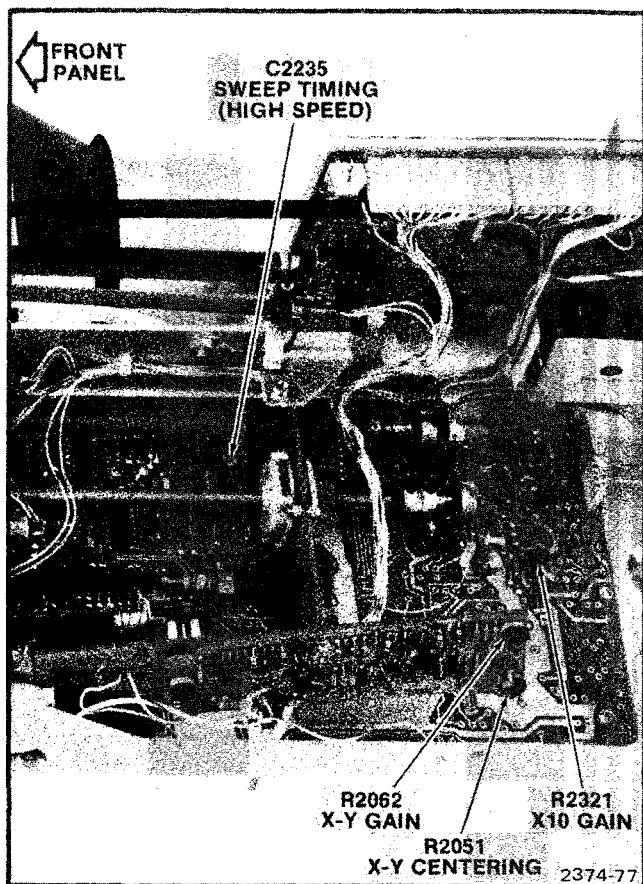

Figure 4-12. Horizontal adjustment locations on A12 Horizontal board and A11 Trigger Switch board.
c. ADJUST—X10 Gain (R2321, see Figure 4-12) for one marker per division over the center 8 graticule divisions (set POSITION and INTENSITY controls as required).
- ADJUST—High Speed Sweep Timing (C2235, see Figure 4-12) for one time marker per graticule division over the center 8 graticule divisions (use a low-capacitance alignment tool).
- ADJUST—X-Y Centering (R2051, see Figure 4-12) to position the dot to the center vertical graticule line.
c. ADJUST—X-Y Gain (R2062, see Figure 4-12) for two dots spaced 5 divisions apart.